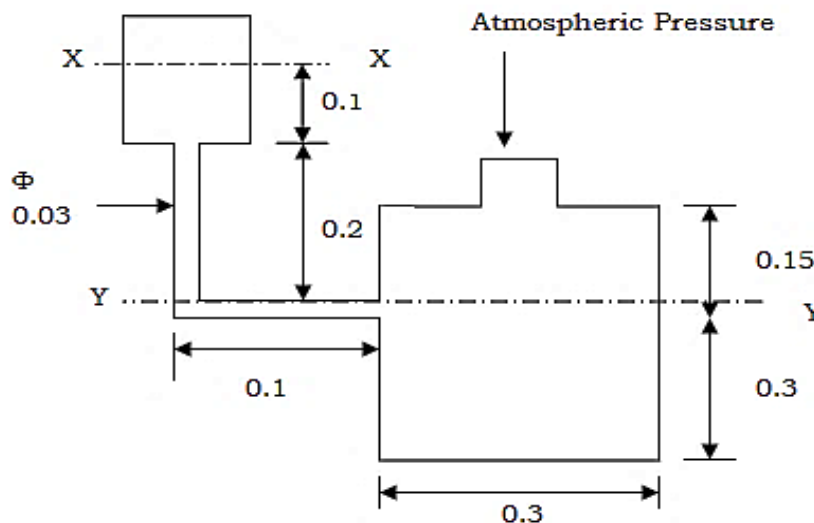

Fig. 1 Mould Filling (All Dimensions are in m)
b) Estimate the time required to fill up the cylindrical mould (in seconds) as shown in Fig. 1. Assume that the liquid metal level in at X-X is maintained constant and the time to fill the runner is negligible. Use the following constants for your calculations: $\rho_m=6000 \text{ kg/m}^3$, $\eta=0.00165 \text{ kg/m-sec}$, $f(\text{runner})=0.0025$, $(L/D)_{eq} \text{ for } 90^\circ \text{ turn}=25$, $e_f (\text{Contraction})=0.1$, $\beta=1.0$, $e_f (\text{Enlargements for levels below Y-Y})=0.0$, $e_f (\text{Enlargements for levels above Y-Y})=1.0$. **[7]**